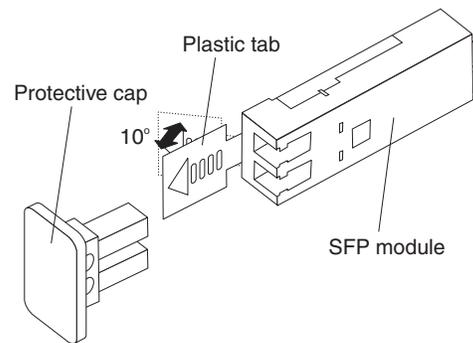

Figure 51. Unlocking the SFP module latch - plastic variety
- For SFP modules that contain plastic tabs, unlock the SFP module latch by pulling the plastic tab outward 10°, as shown in Figure 51.